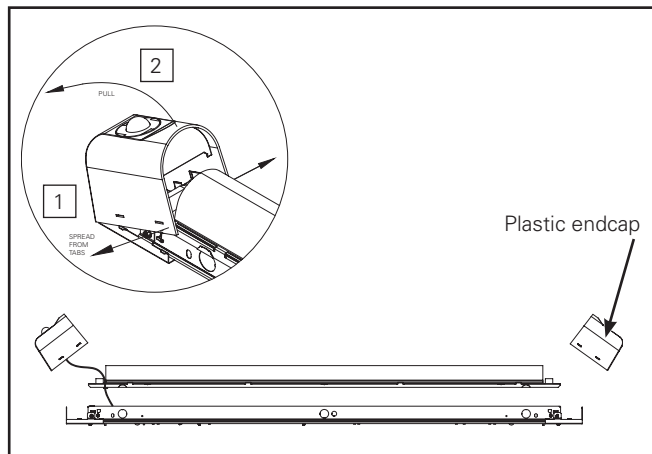

Figure 1.
2. Remove plastic endcaps or midcaps, remove channel cover from channel housing (Figure 1). When a sensor is installed, take care not to pull wires from the sensor. Channel cover is held by tethers to keep it from falling during installation.